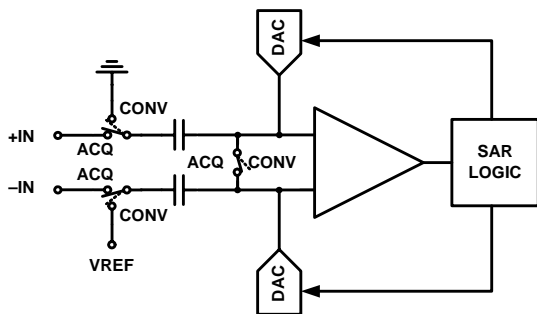

FIGURE 25. SAR ADC ARCHITECTURAL BLOCK DIAGRAM
The ISL267817 is based on a successive approximation register (SAR) architecture utilizing capacitive charge redistribution digital to analog converters (DACs). Figure 25 shows a simplified representation of the converter. During the acquisition phase (ACQ), the differential input is stored on the sampling capacitors (CS). The comparator is in a balanced state since the switch across its inputs is closed. The signal is fully acquired after  $t_{ACQ}$  has elapsed, and the switches then transition to the conversion phase (CONV) so the stored voltage may be converted to digital format. The comparator will become unbalanced when the differential switch opens and the input switches transition (assuming that the stored voltage is not exactly at mid-scale). The comparator output reflects whether the stored voltage is above or below mid-scale, which sets the value of the MSB. The SAR logic then forces the capacitive DACs to adjust up or down by one quarter of full-scale by switching in binarily weighted capacitors. Again, the comparator output reflects whether the stored voltage is above or below the new value, setting the value of the next lowest bit. This process repeats until all 12 bits have been resolved.